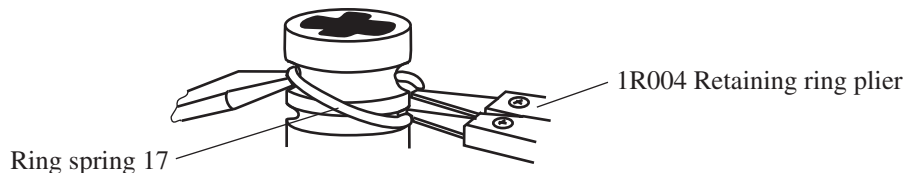

Fig. 2.
- (2) Lever up ring spring 17 with screwdriver, expanding it with 1R004 "retaining ring plier" and remove ring spring 17 from tool holder as illustrated in Fig. 2.